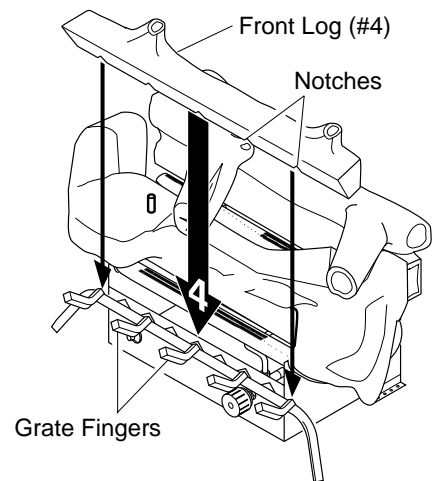

Figure 25 - Installing Front Log (#4)
4. Locate the notches in the bottom of the front log (#4). Place the front log on the grate fingers. Make sure the notches of the front log line up with the grate fingers (see Figure 25).